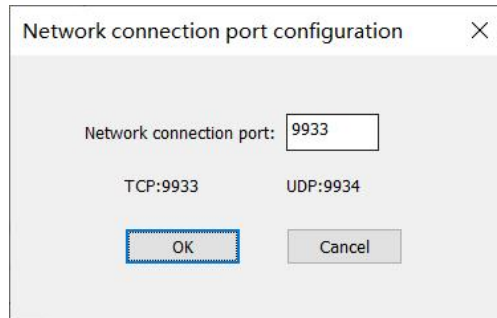

Fig.4-10 Network connection port configuration
- ① It is recommended that you select **Remote** when the sender is placed far from the LED screen and the control PC cannot physically connect to the sender via a cable.
- ② For calibration with 2 PCs, the PCs should share the same LAN (connected via WIFI or network cable), and the firewalls of them should be turned off. Both PCs should also install *Calibration Pro* of the same version.
- ③ The PC for display capture will automatically launch CaliPro Server and should be connected to the control PC.
- ④ The **Control PC port** is 9933 by default. If the default port has been occupied by other devices, you will need to set a port number for both the control PC and the PC for display capture. To modify the port number, right-click the software interface or minimize the interface in the control PC, and then access the network setup window to enter a new port number. See Figure 4-10.